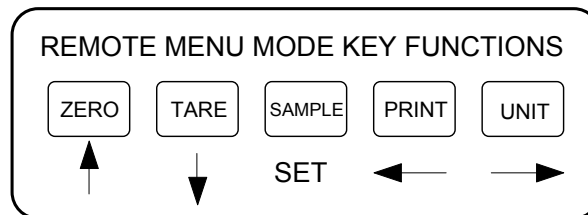
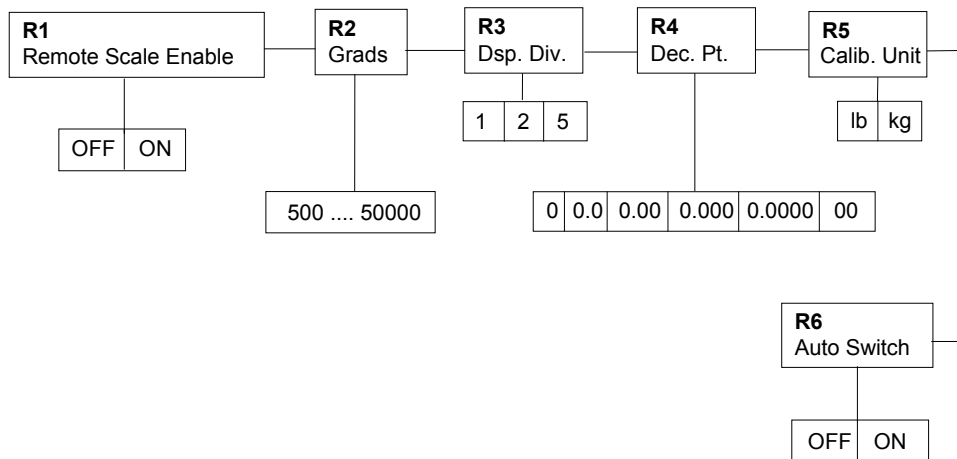

Figure 5-1: Remote Menu Key Assignments
Figure 5-2: Remote Menu Chart
Use the directional keys shown in Figure 5-1 to move around in the Remote Menu Chart shown in Figure 5-2 on the following page. Detailed descriptions of the Remote Menu can be found in Table 5-1.
3. Use the left or right directional keys (shown in Figure 5-1 above) to move the decimal point position to the correct position. Pressing the PRINT key or the UNIT key will change the position of the decimal point.
6. Use the four directional keys (shown in Figure 5-1 above) to adjust the displayed value to the actual custom unit multiplier value. Increase the flashing digit by pressing the ZERO key. Decrease the flashing digit by pressing the TARE key. Pressing the PRINT key or the UNIT key will change the position of the flashing digit.
3. Use the four directional keys (shown in Figure 5-1 above) to adjust the displayed value to the actual ID Number value. Increase the flashing digit by pressing the ZERO key. Decrease the flashing digit by pressing the TARE key. Pressing the PRINT key or the UNIT key will change the position of the flashing digit.
3. Use the four directional keys (shown in Figure 5-1 above) to adjust the displayed value to the actual time value. Increase the flashing digit by pressing the ZERO key. Decrease the flashing digit by pressing the TARE key. Pressing the PRINT key or the UNIT key will change the position of the flashing digit.
3. Use the four directional keys (shown in Figure 5-1 above) to adjust the displayed value to the actual date value. Increase the flashing digit by pressing the ZERO key. Decrease the flashing digit by pressing the TARE key. Pressing the PRINT key or the UNIT key will change the position of the flashing digit.